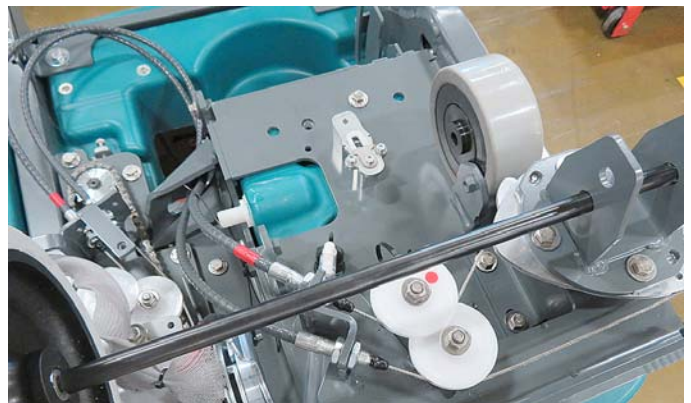

Fig. 3
5. Check the cable routing to ensure it's properly installed (Figure 3). Refer to Service Manual for further details.